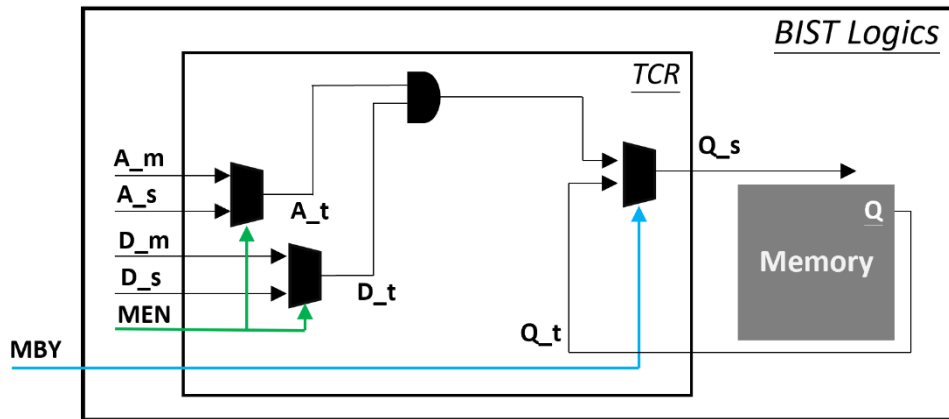

Figure 3-19 Implementation of Bypass Circuit by Wire
- Wire: Implement the bypass circuit by wire as Figure 3-19